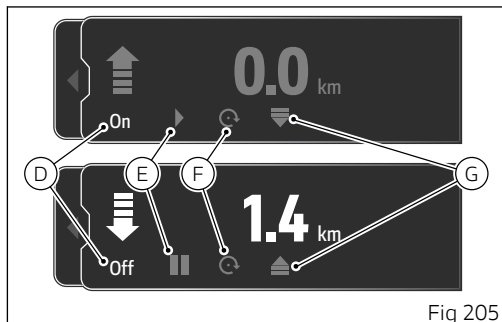

Fig 205
- "On" or "Off" to activate or deactivate the meter (D, Fig 205)
- ► play or || pause to start or stop the distance calculation (E, Fig 205)
- ⌚ reset to reset the meter (F, Fig 205)
- ▲ incremental or ▼ differential to change the distance calculation mode (G, Fig 205)